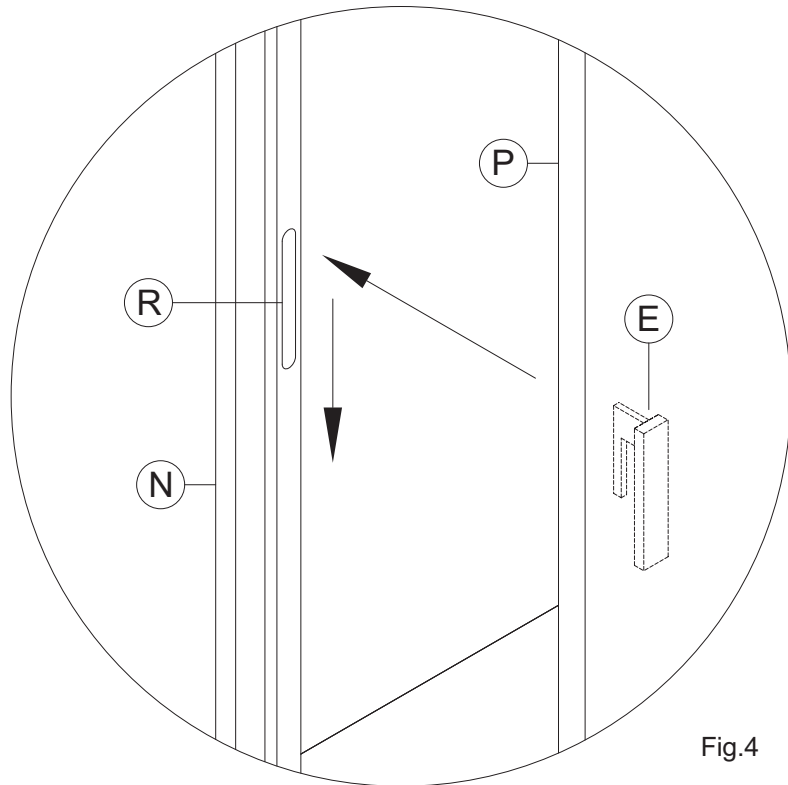

Fig.4
Applicare l'anta (P) alle guide di scorrimento (N) agganciando i n°4 ganci (E) alle asole (R) ricavate sulle guide di scorrimento (N) (fig.4).
Fix the door (P) on the sliding guides (N) hanging the 4 hooks/E/ into the loops (R) which are present on the sliding guides/N/. (fig.4)
Die Türe (P) an der Gleitschienen (N), durch die Haken (E) an den Ösen/R/ die sich in den Gleitschienen (N) befinden. (Abb.4)